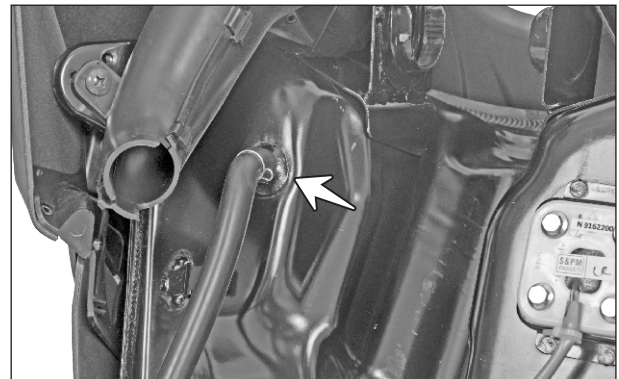

Fig. 4.7
- Dislocate the hose clamp and disconnect the hose drain from the fuel tank assembly. (Fig. 4.7)